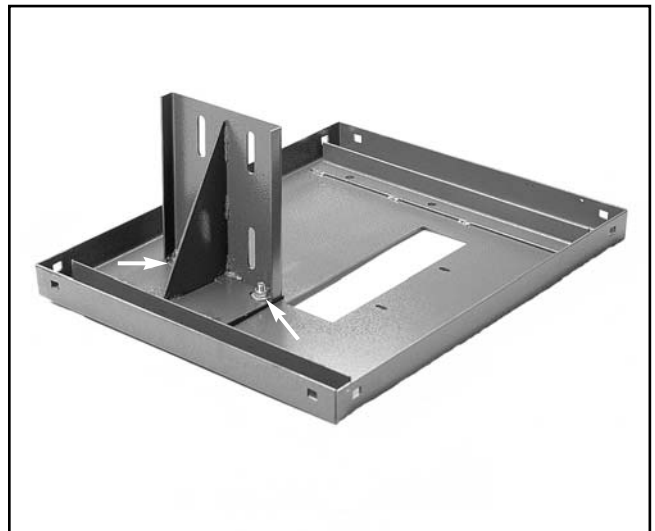

Figure 3. Attaching motor mount bracket.
1. Flip the top of the stand upside-down. Position the motor mounting bracket so that it sits over the four (4) evenly spaced holes in the top. Bolt the bracket to the stand with two (2) $\frac{3}{8}$ "-16 x 1" hex bolts, $\frac{3}{8}$ " washers, and $\frac{3}{8}$ "-16 nuts provided. Hand tighten for now so your assembly looks like **Figure 3**.